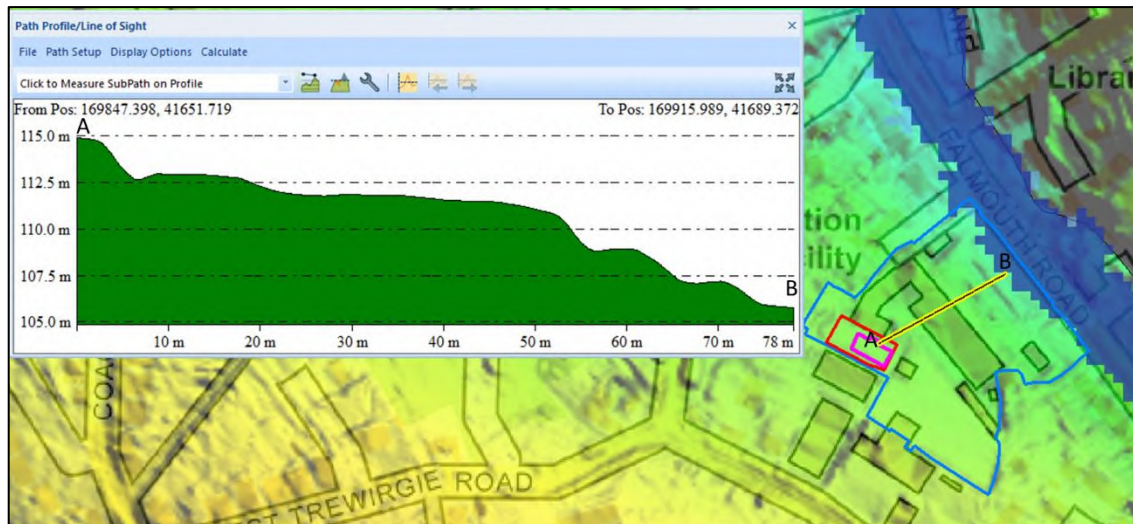

Figure 5: Comparison between site topography and elevations of Flood Zone 3 (Sources: EA, OS)
- 4.5 Based on 2m LiDAR, topographic levels at the edge of Flood Zone 3 on Falmouth Road are approximately 106mAOD (Figure 5). As such, the proposed classroom block will be located on land approximately 8m above the topographic levels at the edge of Flood Zone 3.